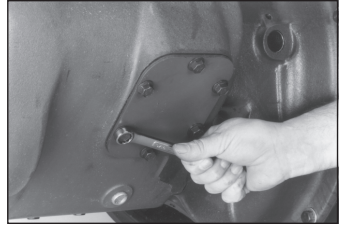

Fig. 1
1. Drain the oil from the transmission and remove the P.T.O. aperture cover plate (Fig. 1).